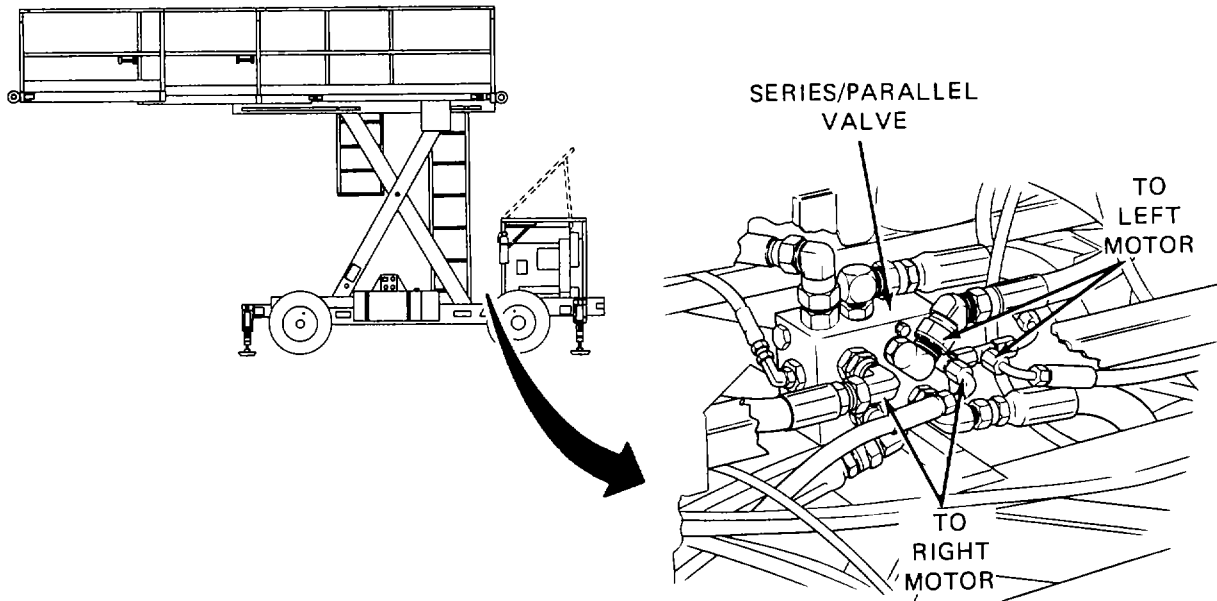

Figure 3-28. Series/Parallel Valve Connections.
- (2) Tag the hydraulic motor hoses at the series/parallel valve (Figure 3-28) for ease of identification during installation.
- (3) Place a drip pan underneath the series/parallel valve. Disconnect the hydraulic hoses for the motor at the series/parallel valve. Plug the hydraulic hoses and valve to prevent foreign matter from entering the system.